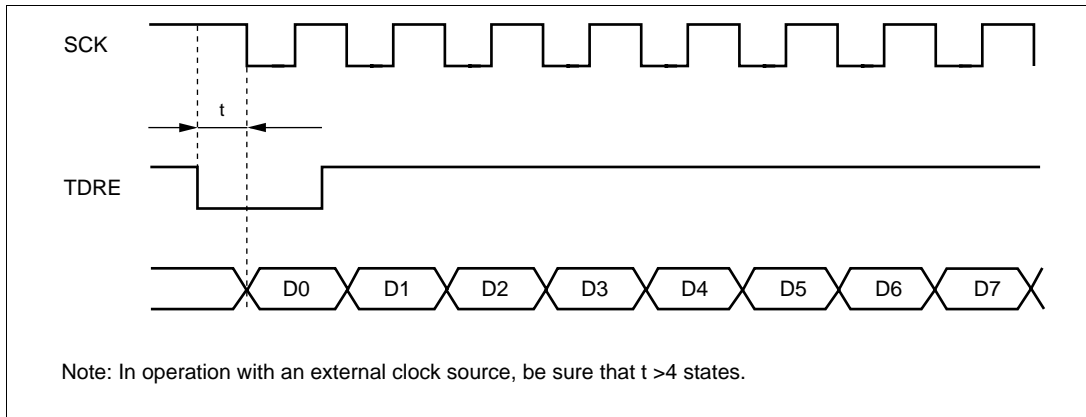

Figure 13.22 Example of Synchronous Transmission Using DMAC
- When an external clock source is used for the serial clock, after the DMAC updates TDR, allow an inversion of at least five system clock (ϕ) cycles before input of the serial clock to start transmitting. If the serial clock is input within four states of the TDR update, a malfunction may occur. (See figure 13.22)